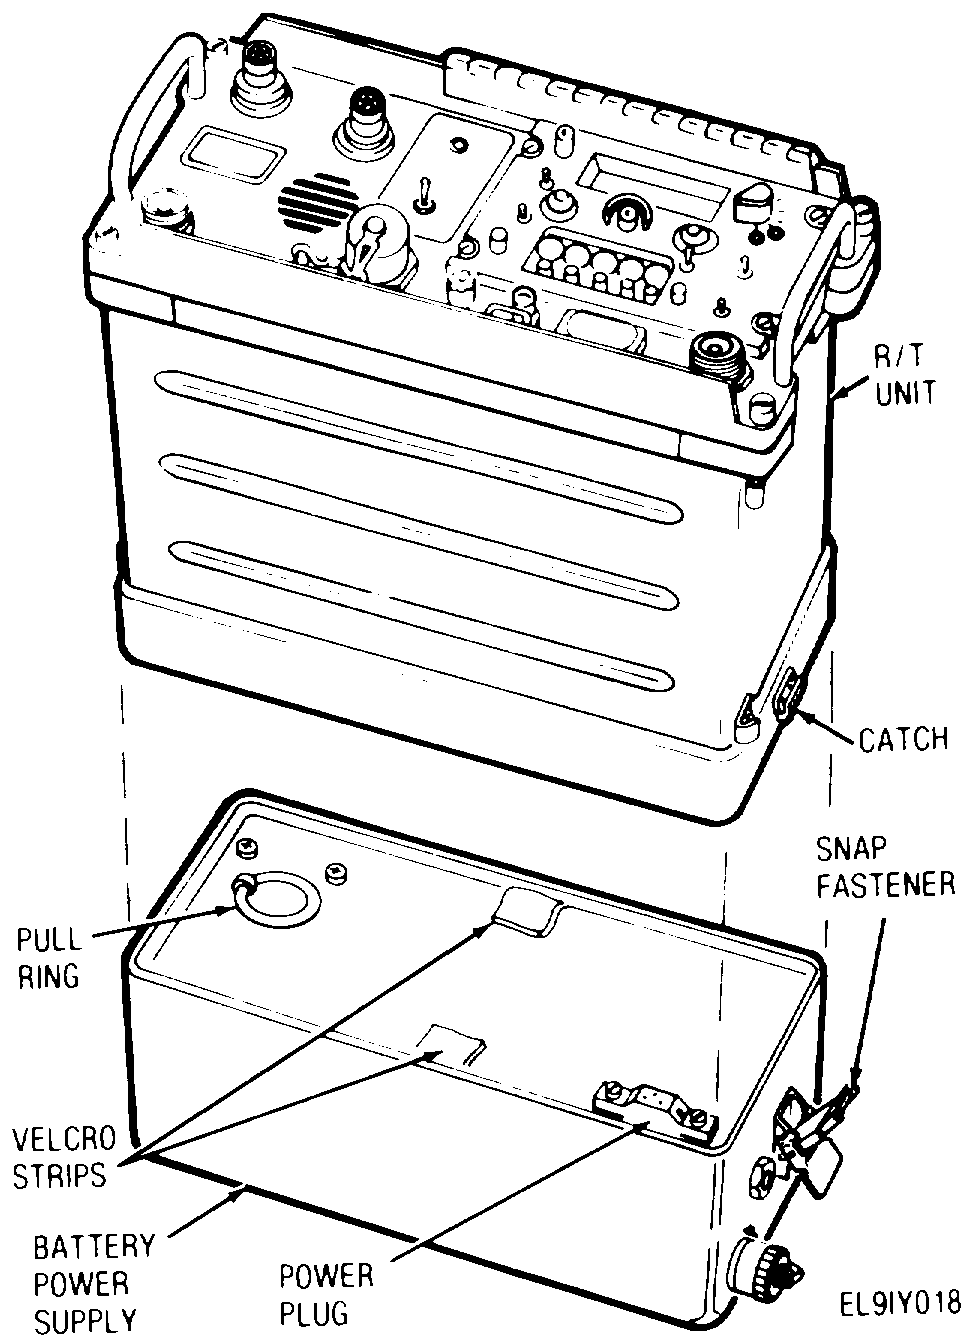

Figure 2-2. Battery Power Supply Installation
- c. Battery Pack Assembly.** To attach the battery pack power source to the radio, refer to Figure 2-2 and perform the following steps:
- (1) Ensure pull ring on battery supply is flat against top of supply.
- (2) Position the R/T unit over the battery power supply so that the R/T and power supply connectors are aligned.
- (3) Slowly lower R/T onto power supply.
- (4) Gently press downward on case to seat the connectors.
- (5) Press down on snap fastener levers until levers snap into place.
**Fasteners (4) are spring-loaded and snap into place. Use thumb or heel of hand when securing power source to the R/T catches (2) to prevent injury.**